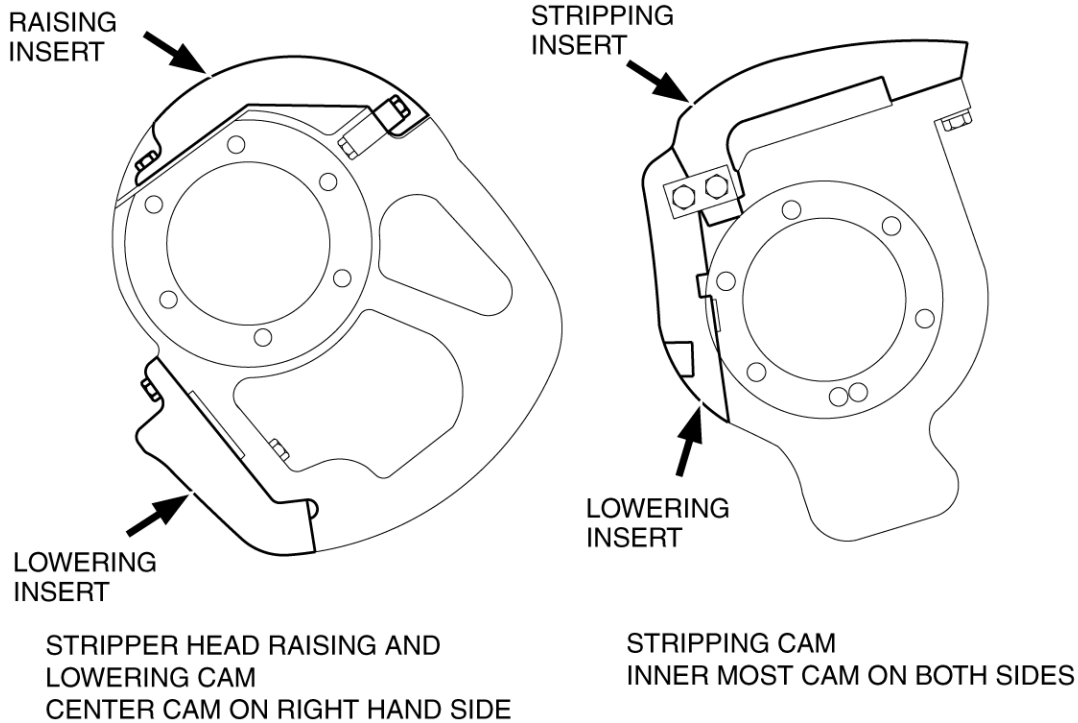

Figure 4.55 STRIPPING CAM INSERTS
4.4.3 Remove the stripping cam insert from each side of the machine. This concrete unit is run without any stripping cam inserts (see figure 4.55).